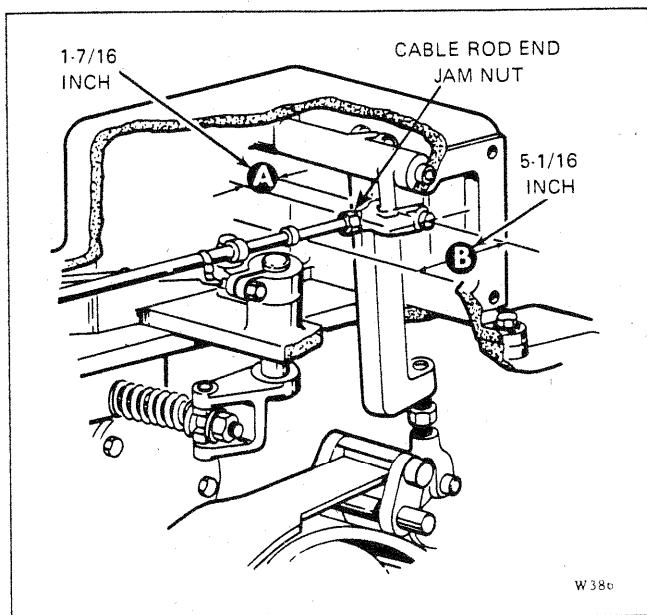

FIGURE 4-5. ADJUSTMENT OF BRAKE LINKAGE, DIRECT DRIVE WINCH
4-14. BRAKE HANDLEVER ADJUSTMENT. (See Figure 4-5.) To adjust the positioning of the Brake Handlever, proceed as follows:
f. Adjust the push-pull cable at the Brake Handlever end (see Figure 2-1) until dimension **B**, Figure 4-5, is obtained.